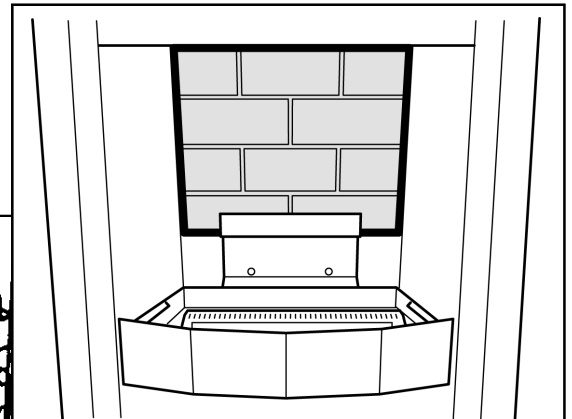

Figure 11 Ceramic Rear Wall Position
1. Fit the ceramic rear wall into the bracket at the back of the firebox .See figure 11.